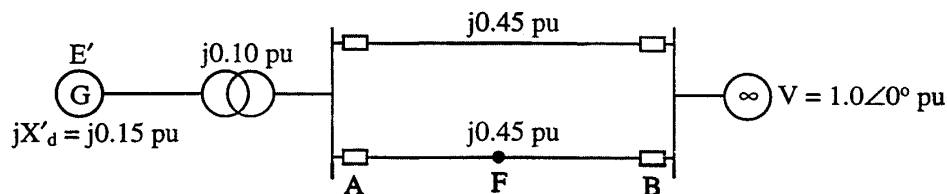

Figure 12.1 Tutorial Question 12.1
- 12.1 The generator shown in Figure 12.1 supplies an apparent power of 1.18 per unit at 0.85 power factor lagging to an infinite bus through a transformer and a double-circuit transmission line. The reactance shown are in per unit on a common system base.